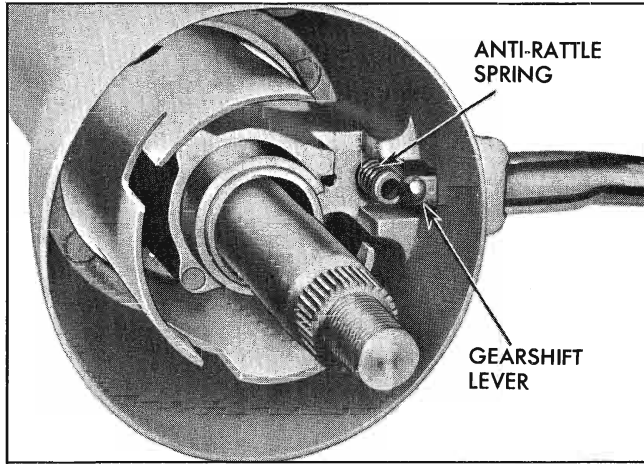

Fig. 9-17 Location of Shift Lever Spring
17. Remove gearshift lever and, using needle nose pliers, remove anti-rattle spring (Fig. 9-17).